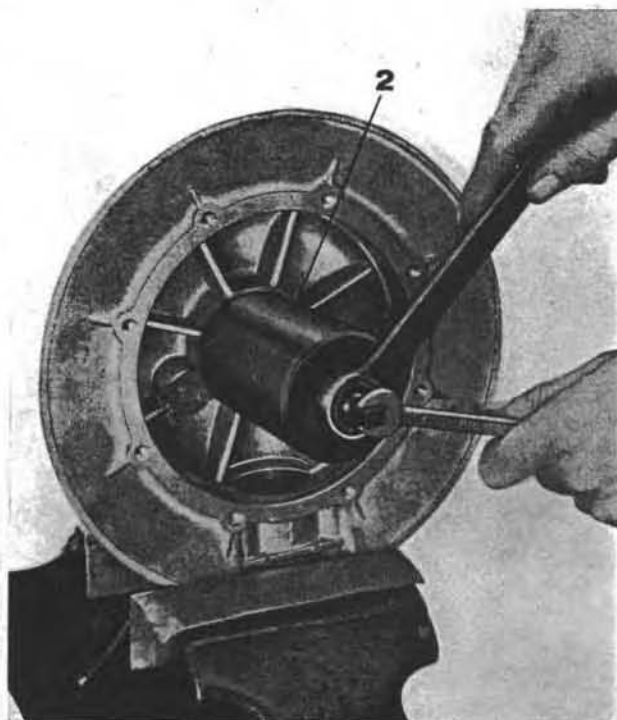

Fig. 90
- remove roller bearing race by means of pulser No. 12906900 (see 2 on Fig. 90).